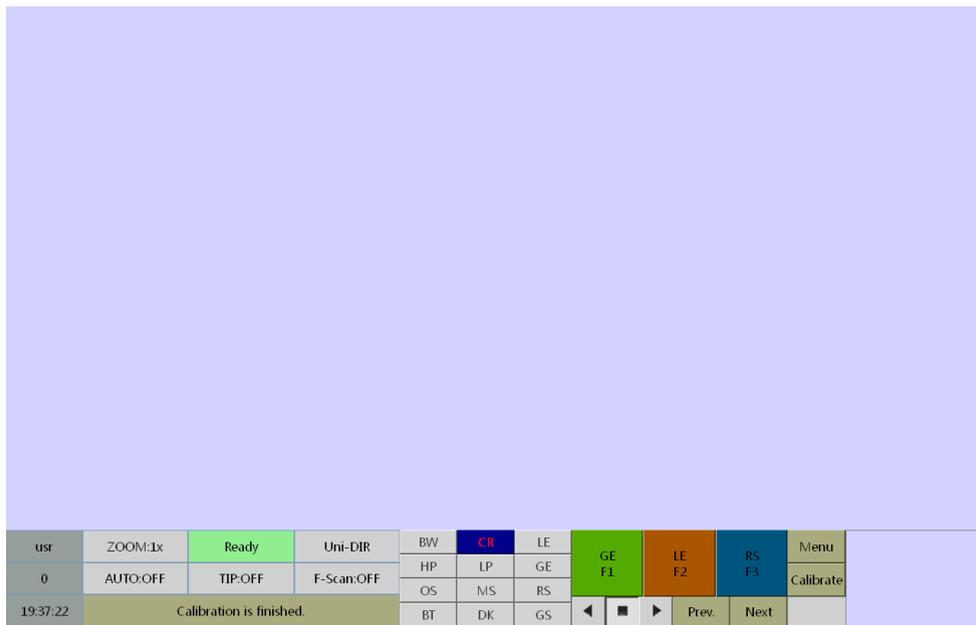

Fig 4.4 Main Interface of X-Ray Security Inspection System
8. **Custom functional buttons :** The different processing functions-"F1", "F2," "F3" can be set separately as required, as shown in the main interface of the X-Ray Security Inspection System in Chapter 4 (Fig 4.4). The default configuration of the functional shortcuts: F1 stands for "Super Enhancement"; "F2" stands for "Local Enhancement"; "F3" stands for "Invert".